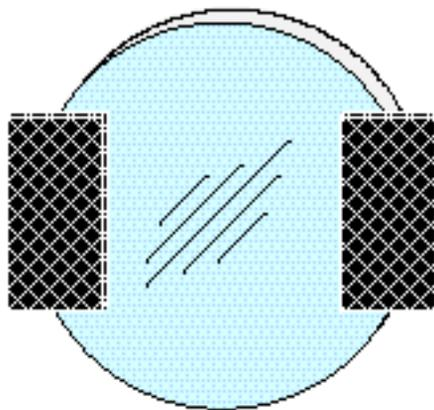

Figure 3. Positioning of magnetic strips on the lens.
6. Two 1.3 cm (.5 inch) magnetic pieces are to be positioned on the flat side of the plano-convex lens as shown in **Figure 3**. Remove the protective backing from a 1.3 cm (.5 inch) magnetic piece and place the piece at either the right or the left position. Remove the protective backing from another 1.3 cm (.5 inch) magnetic piece and place that piece at the opposite position on the lens.